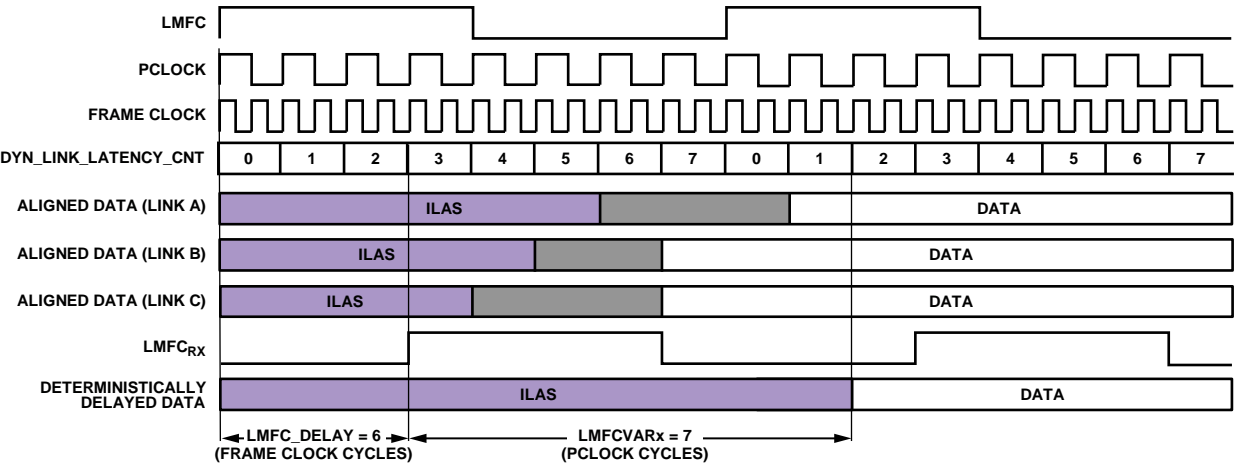

Figure 56. Multilink Synchronization Settings, Derived Method Example
Figure 56 shows how DYN\_LINK\_LATENCY\_x (Register 0x302 and Register 0x303) provides a readback showing the delay (in PClock cycles) between LMFCRX and the transition from ILAS to the first data sample. By repeatedly power-cycling and taking this measurement, the minimum and maximum delays across power cycles can be determined and calculate LMFCVar and LMFCDel.
The example shown in Figure 56 is demonstrated in the following steps according to the procedure outlined in the Without Known Delays section. Note that this example is in Subclass 1 to achieve deterministic latency, which has a PClockFactor (FrameClockRate/ PClkRate) of 2 and uses K = 16; therefore PClocksPerMF = 8.
1. In Figure 56, for Link A, Link B, and Link C, the system containing the AD9154 (including the transmitter) is power cycled and configured 20 times. The AD9154 is configured as described in the Device Setup Guide section. As the point of this exercise is to determine LMFCDel and LMFCVar, the LMFCDel is programmed to 0 and the DYN\_LINK\_LATENCY\_x is read from Register 0x302 and Register 0x303 for Link 0 and Link 1, respectively. The
variation in the link latency over the 20 runs is shown in Figure 56 in gray.